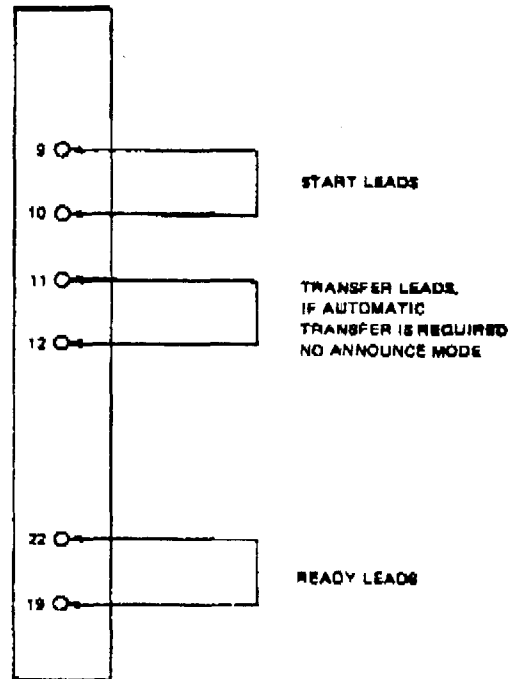

Fig. 3 — Auto-Answer Application
(Fig. 3)
2.03 The power cord and customer equipment connector are located at the bottom of the recorder coupler (Fig. 3).
To modify the ERC19522 connector, for those applications requiring auto-answer, place the jumpers in the cable and plug assembly coming from the terminal equipment, as shown in Figure 3.